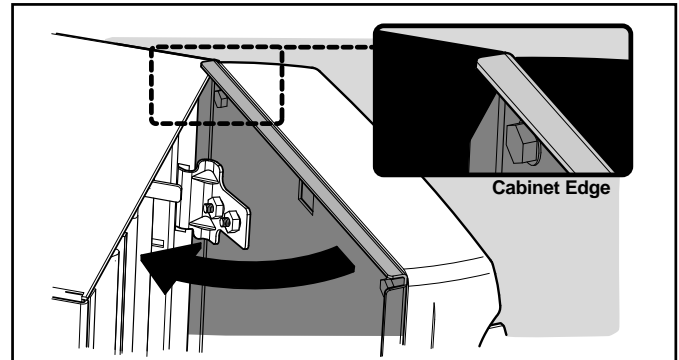

Figure 13
Step 3: Rotate door to closed position. Ensure ends of door overlap the cabinet (see detail). See Figure 13.